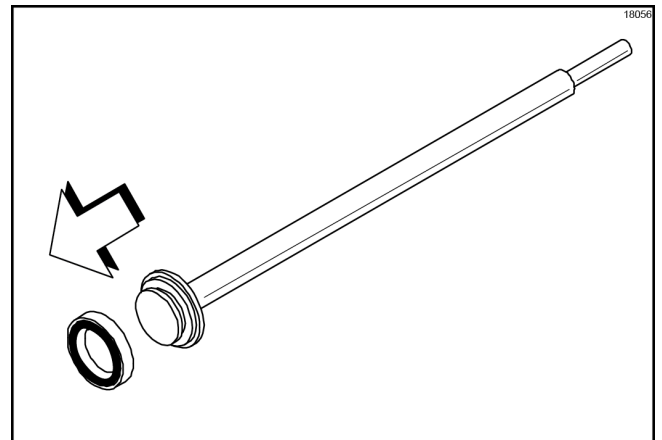

Figure-76
7. Remove the seal assembly from the plunger assembly. (See Figure-76.)